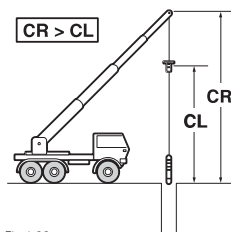
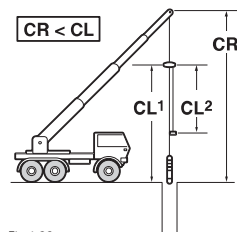

Fig 1.22
Fig 1.23
- 1.5.2.1 Establish whether the vertical lifting capability of the crane is sufficient to install the riser in one stage i.e. if the crane reach (CR) is greater than column length (CL) Fig. 1.22. If not, installation must proceed in two or more stages (Fig. 1.23), where $CL = CL^1 + CL^2$ etc.